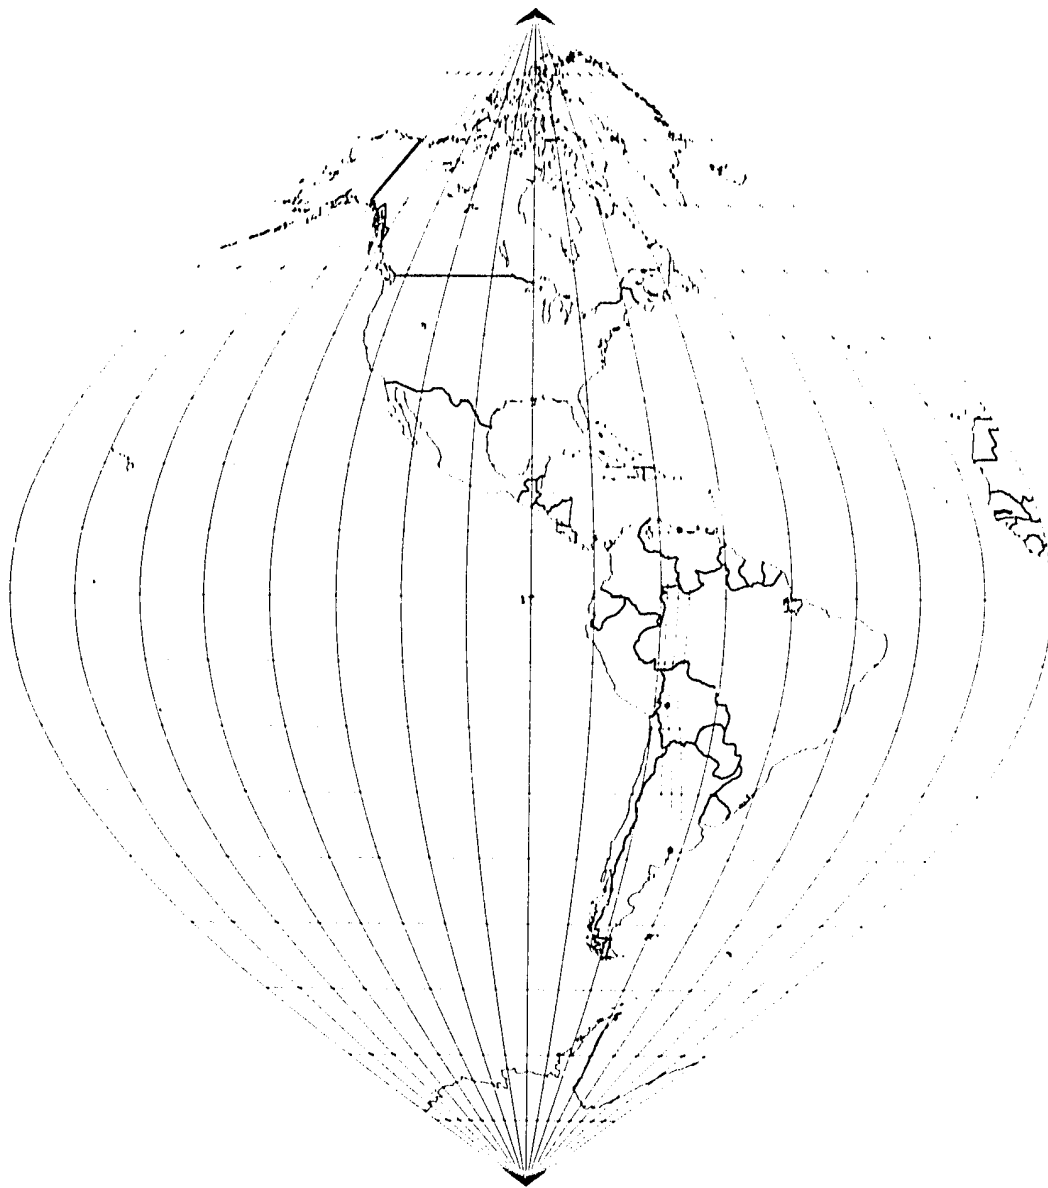

Figure 25. SINUSOIDAL
Figure 25 in addition to being an example of the Sinusoidal Projection also illustrates a new CAM feature, the corridor, which can be drawn parallel to either or both sides of a given line. In this case, a 200 nautical mile corridor has been plotted connecting the three cities shown on map.
Figure 25 is an example of the XY Display. Its purpose was to demonstrate the capabilities of the SOLIDFIL routine which fills areas with line or symbol patterns or solidly. It was derived by using a cartesian coordinate (XY) system and the Graphic Data Format.